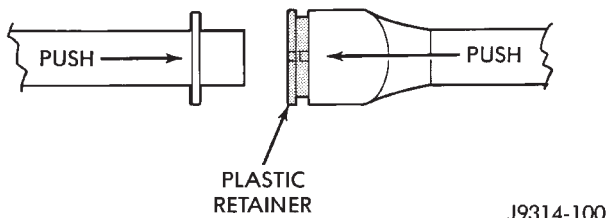

Fig. 19 Plastic Ring Type Fitting
(1) Disconnect negative cable from the battery.
(2) Perform the Fuel Pressure Release Procedure. Refer to the Fuel Pressure Release Procedure in this section.
(3) To release the fuel tube from the fitting, push in on the tube while pushing the spring loaded plastic retainer ring into the fitting (Fig. 19). With the plastic ring depressed, pull the tube from fitting. After disconnection, the plastic retainer ring will remain on the fitting.
(4) Inspect fitting connector body and plastic retainer ring (Fig. 19) for damage. Replace as necessary.
(5) Prior to connecting fuel tube to quick-connect fitting, check condition of tube and clean the fuel tube nipple and fitting with a lint-free cloth. Lubricate it with clean engine oil.
(6) Insert the fuel tube into quick-connect fitting (Fig. 19) until a click is felt. Pull back on fuel tube and fitting to be sure of a complete connection.
(7) Connect negative cable to battery.